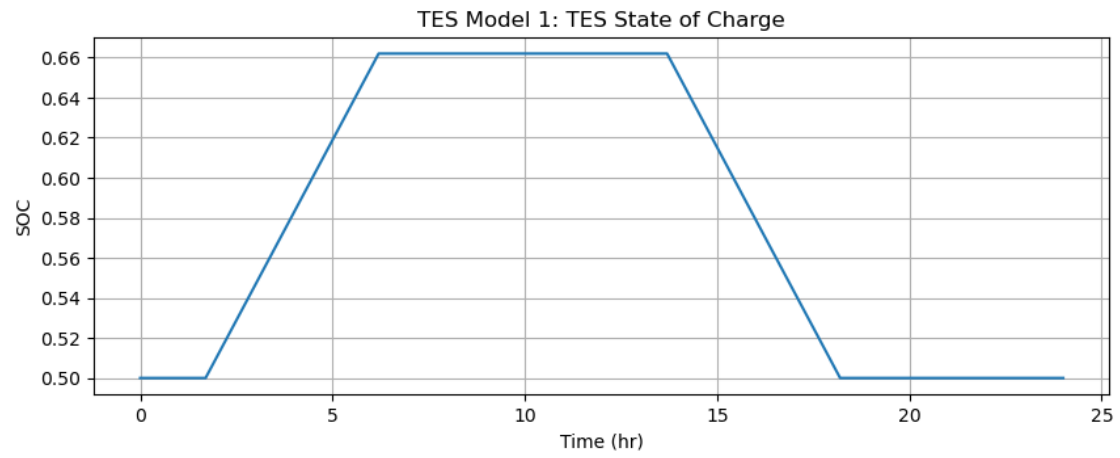

Figure 5
1. The control logic is very binary and idealized, as shown in figures 5 and 6. It charges whenever the wet-bulb temperature falls below the first breakpoint, discharges whenever the wet-bulb temperature exceeds the second breakpoint, and remains idle everywhere else. In practice, TES control depends on a far more complicated combination of ambient conditions, chiller load, tank state of charge, and perhaps electricity cost.